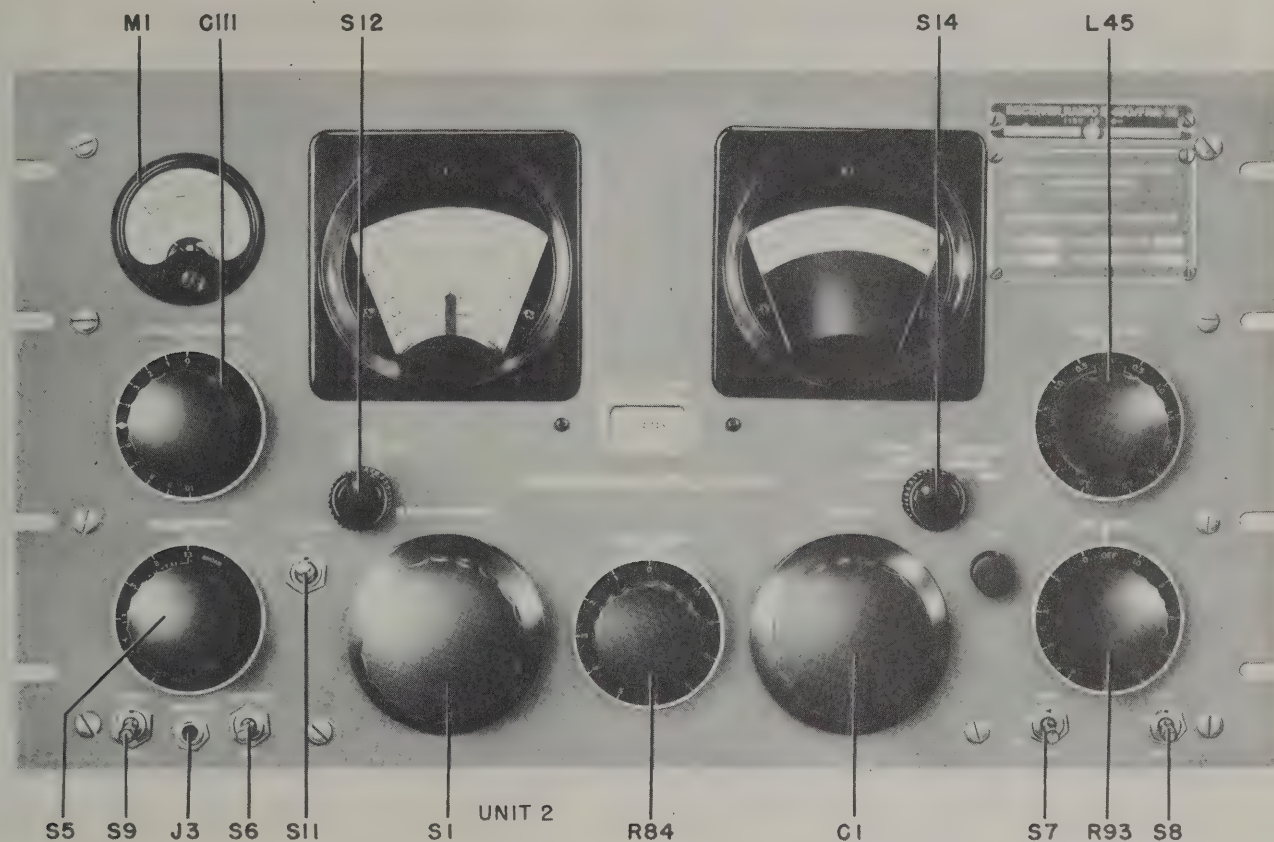

Figure 4-1. Radio Receiver R-450/FRR-28, Front View, Operating Controls and Adjustments
(See figures 4-1 through 4-7.)
(15) At the patching panel, patch CONVERTER OUTPUT of the converter being used to TELEPHONE LINES 1, 2, 3, or 4 for use of the signal in the external circuit, and patch CONVERTER TONE output to SPEAKER MONITOR.
(16) Set AVC DIV-LOC switch on rear of receiver to LOC.
(17) Set "3.5 MC OSC" switch on rear of receiver to "3".
(18) Slightly readjust TUNING control on receiver front panel for maximum meter deflection.
(19) Set speaker volume control to maximum.
(20) Disconnect plug P9 from DET jack at rear of receiver, and remove the link between terminals 4 and 5, on terminal board E19 on the rear of the receiver. The link must be connected if an audio type converter is used. (See figure 4-1.)